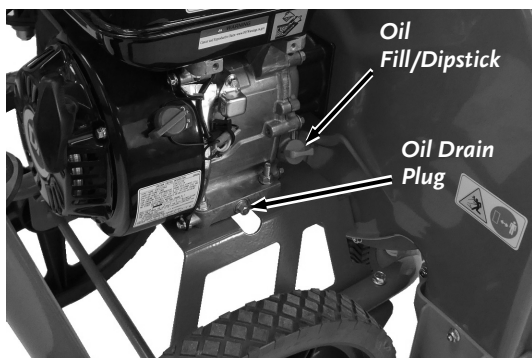

Figure 16
- SAE 30 High Detergent (HD) Oil (for winter use, use SAE 5W – 30W)
1. Place an approved Oil Drain Pan under the Engine Oil Drain Plug at the side of the machine (**Figure 16**).